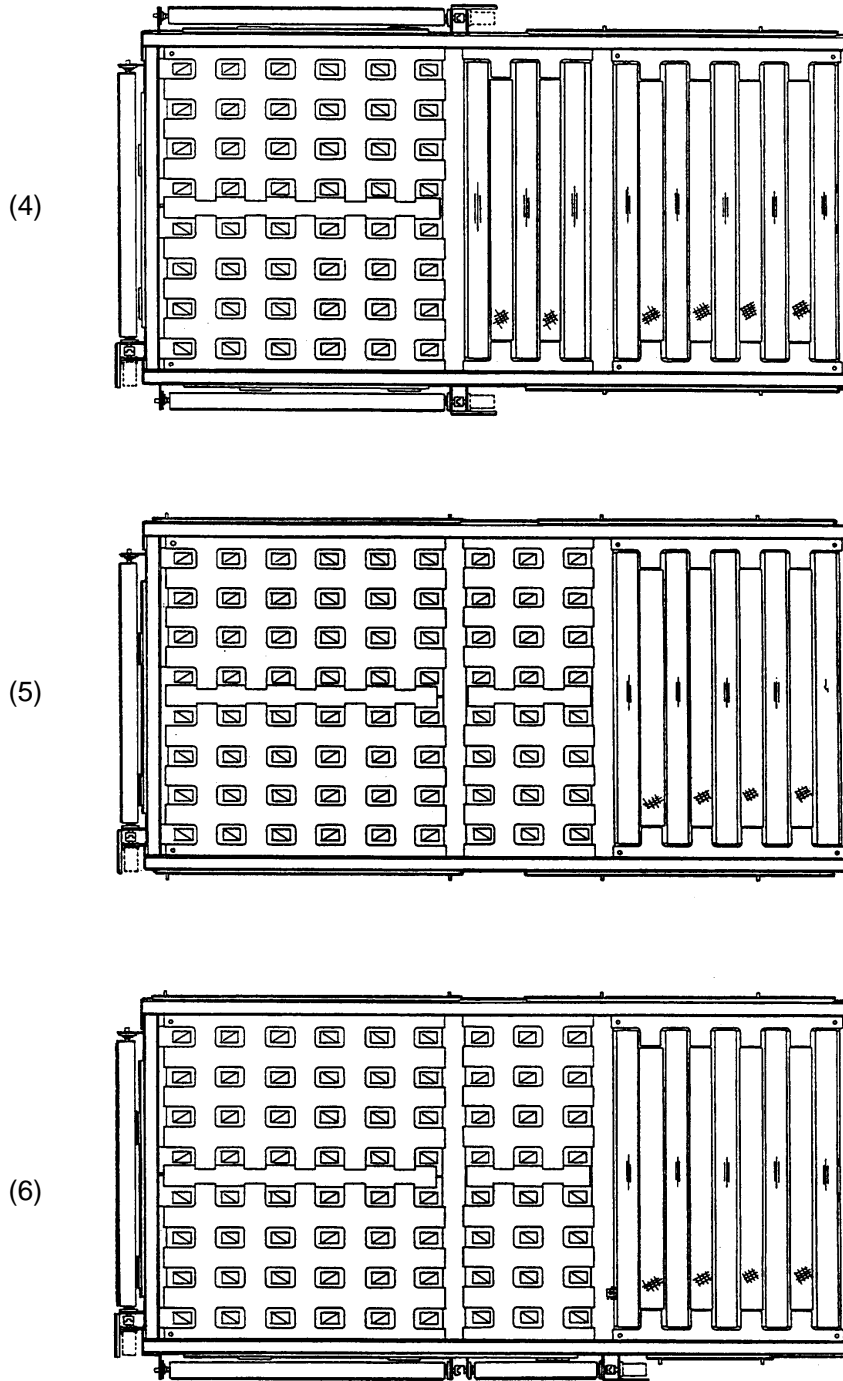

Figure 11
(4) Right & Left Side Container Load (Figure 11)
(5) End Load w/Pallet Side Shift (Figure 11)
(6) Right Side Pallet Load (Figure 11)